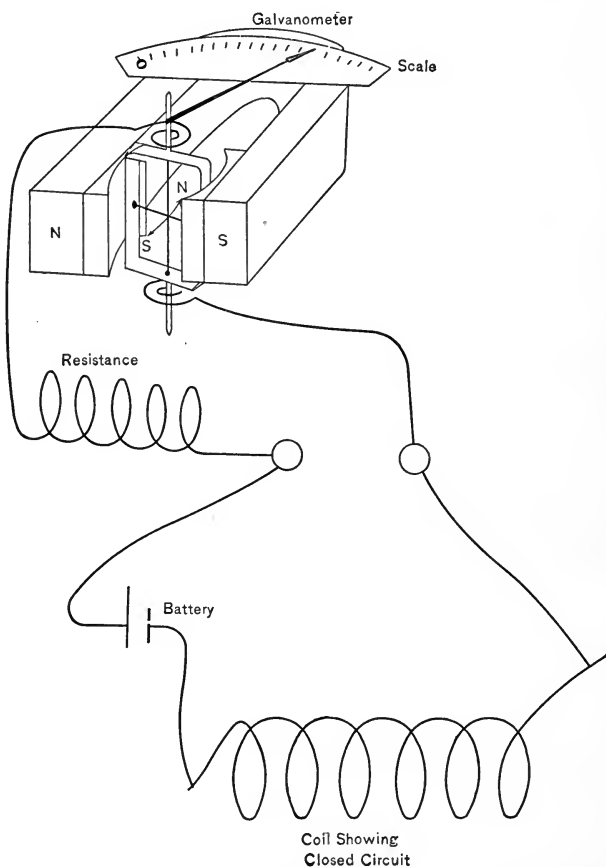

FIG. 102.
*Note.*—In case of a break in the coil, Fig. 102, there would be no current flowing in galvanometer and no deflection of the needle would be indicated.
The wires that should show *closed* circuit are the two red wires and the black wire and transformer case. Those that should be *open* are the black, and either red wire. (See Fig. 102.)